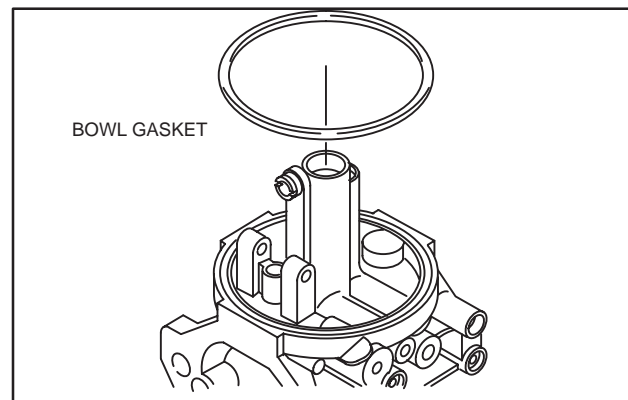

Fig. 30 – Removing Gasket
4. Remove rubber float bowl gasket, Fig. 30.